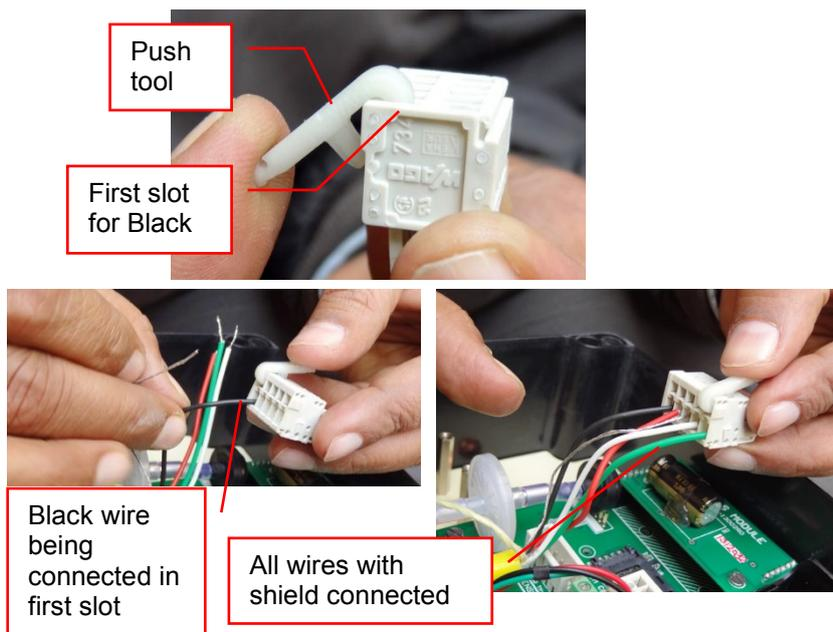

Figure 9-6: Connecting cable to 5 pin connector
- 9.6.14 Connect sensor cable end to the 5 pin connector pressing the lever of push tool down as shown in figure 9-6. (5 pin connector and push tool are part of supply)